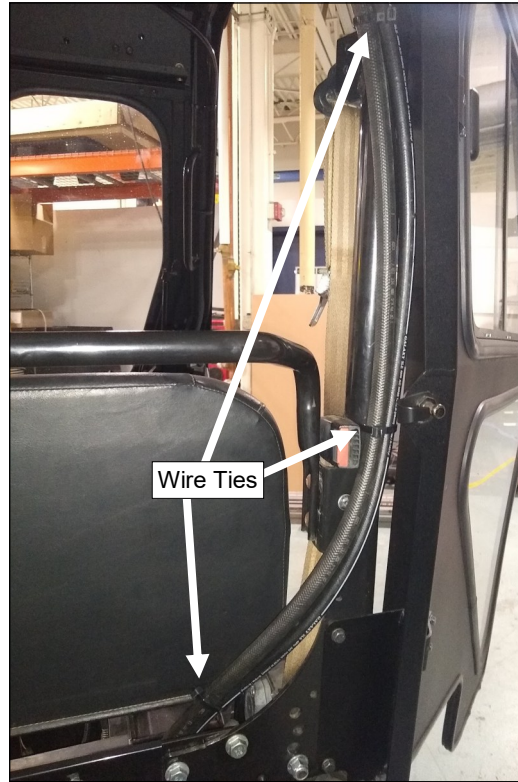

Fig. 6.1a Hose Routing
- 6.1 Route A/C hoses as shown. See Figures 6.1a, b, and c.
- 6.6 Using provided wire ties, secure A/C refrigerant hoses away from heat sources and all moving parts. See figures 6.1a, b, and c.